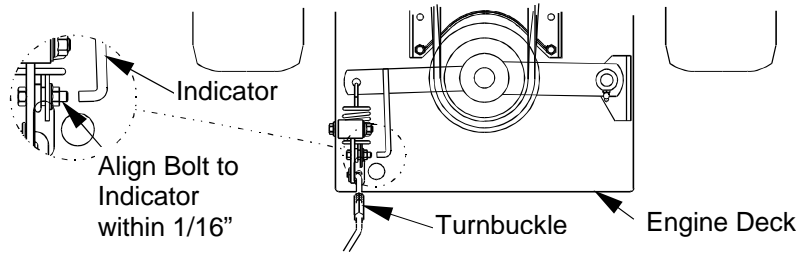

FIGURE 12
- With PTO engaged, adjust the linkage length by loosening the locknut on the turnbuckle and adjusting the turnbuckle so that the bolt on the bellcrank and the indicator arm align with each other within 1/16". See Figure 12. Tighten locknut against turnbuckle.